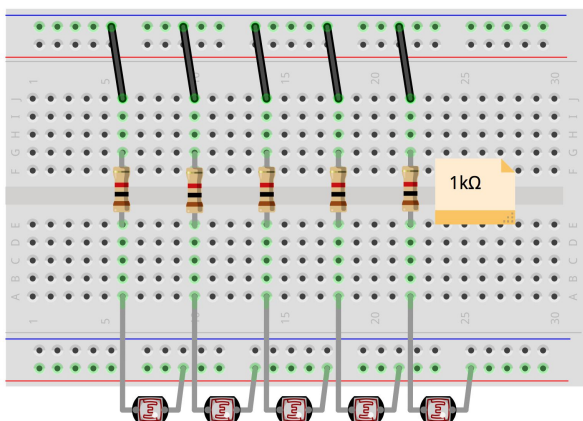
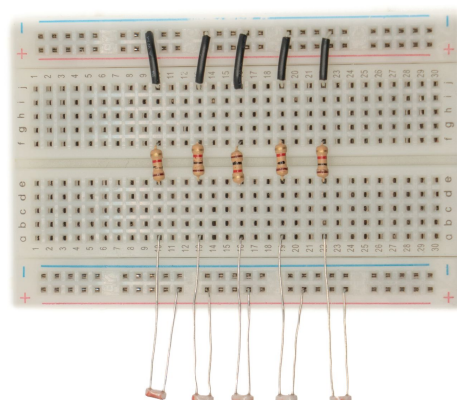

Figure 2.6
Figure 2.7
5. Repeat above two steps for the other 4 photoresistors, and follow **Fig 2.6** to plug them in. Space all photoresistors as evenly as possible. Your outcome should resemble **Fig 2.7** on the bottom.